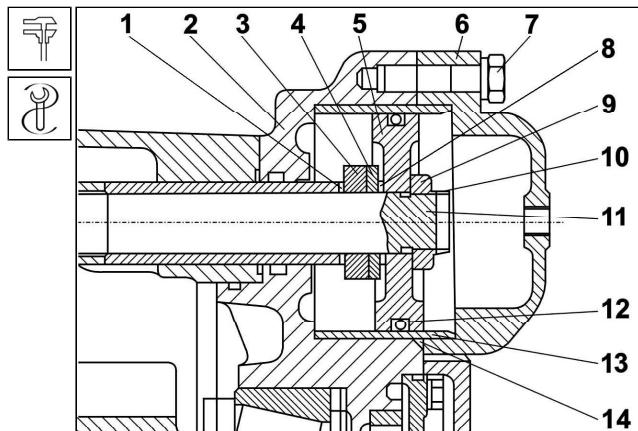
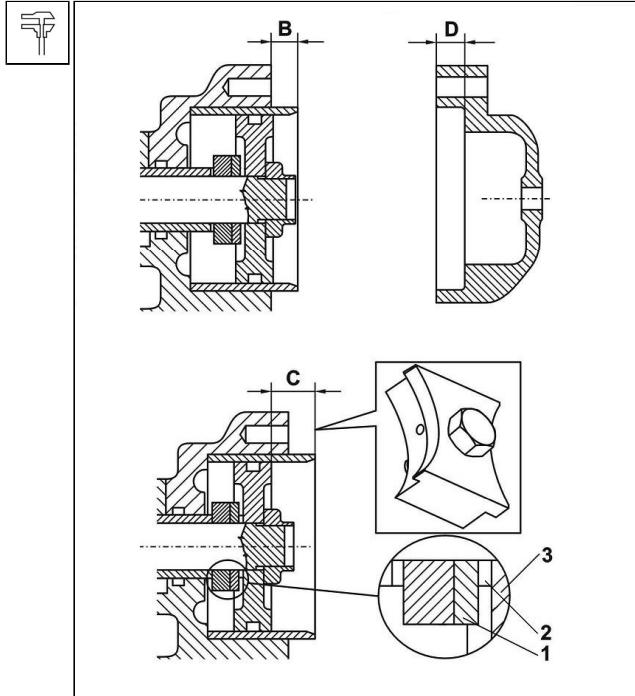

Fig. 4.4 Auxiliary gearbox shift cylinder
Fig. 4.6 Shift cylinder piston adjustment
9. Fit spacer washers 1 onto the piston rod (shifter rod) 10 (See Fig. 4.4).
16. Dismount the nut 9 (See Fig. 4.4) and move the piston 5 out of the cylinder. Fit spacer washers 2 (See Fig. 4.6) of the thickness **Z₁** between the piston 1 and washer 3.